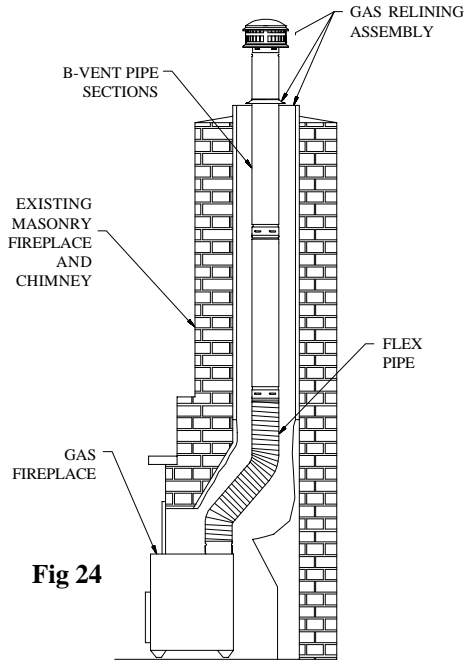

Fig 24
1. Description. A masonry chimney should be relined with B-Vent when venting a Category I gas appliance, such as a gas fireplace insert or freestanding gas stove, or to improve the venting and reduce condensation of existing gas appliances which are currently venting into the masonry chimney. These instructions encompass two general configurations: (1) A gas fireplace situated inside an existing masonry fireplace (Figure 24) or (2), a free-